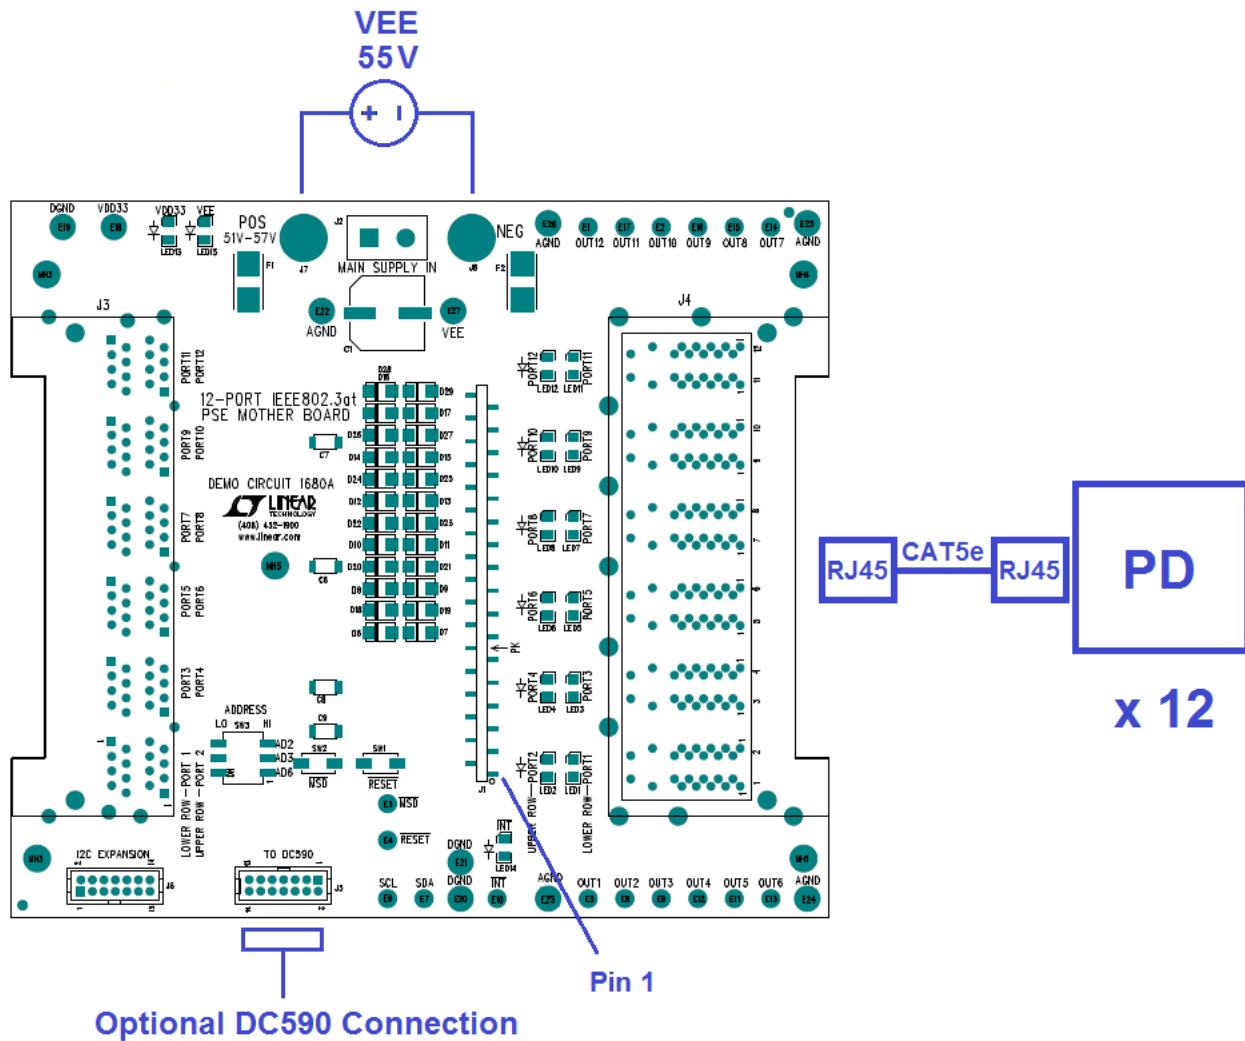
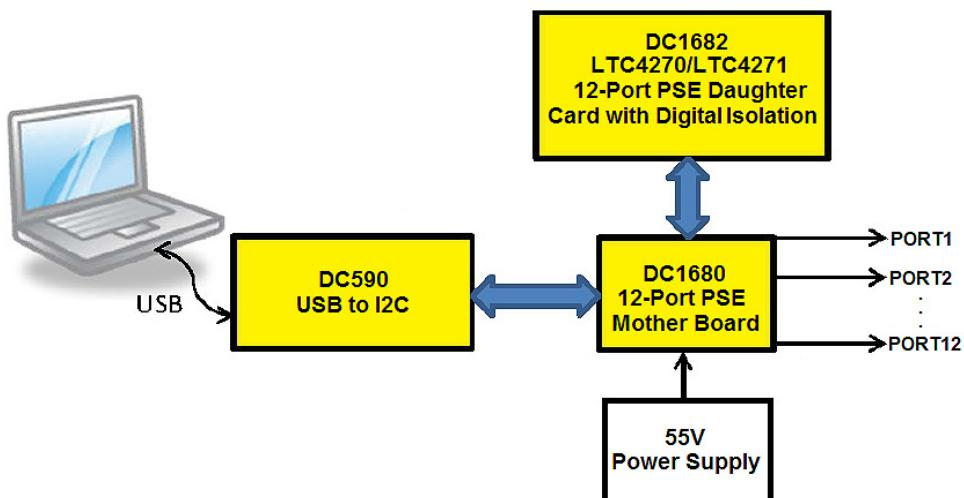

Figure 3. DC1840 Basic Setup
Figure 4. System Setup with the DC590, DC1680, DC1682 and 55V Power Supply
4. On the DC1680, connect a supply with the positive rail to POS and negative rail to NEG (Figure 3). Use a power supply capable of sourcing the maximum load expected ($12 \text{ ports} \times 850\text{mA} \geq 10.2\text{A}$). Ramp the supply up to 55V.
5. Connect up to 12 PDs to the DC1680, J4 (Figure 3).
6. The DC590 is optionally connected to the DC1680 connector J5 with a 14-pin ribbon cable (Figure 3). A GUI for the LTC4270/LTC4271 is brought up by QuikEval for I²C interfacing from a PC (Figure 4).
Connect a power supply for V_{EE} with the positive rail to POS and negative rail to NEG as shown in Figure 3 of the Quick Start Procedure. Set the voltage within the range in Table 1 depending on whether the application is a Type 1 or Type 2. Choose a power supply rating and set the current limit high enough to provide power for the maximum number of PDs connected and to meet each PD power requirements.
PDs are connected using an Ethernet cable to any of the 12 ports at the 2x6, RJ45 connector J4 on the DC1680A (Figure 3). J4 has an integrated Ethernet transformer and common mode termination for each port. Test points for port outputs OUT1 through OUT12 are provided.